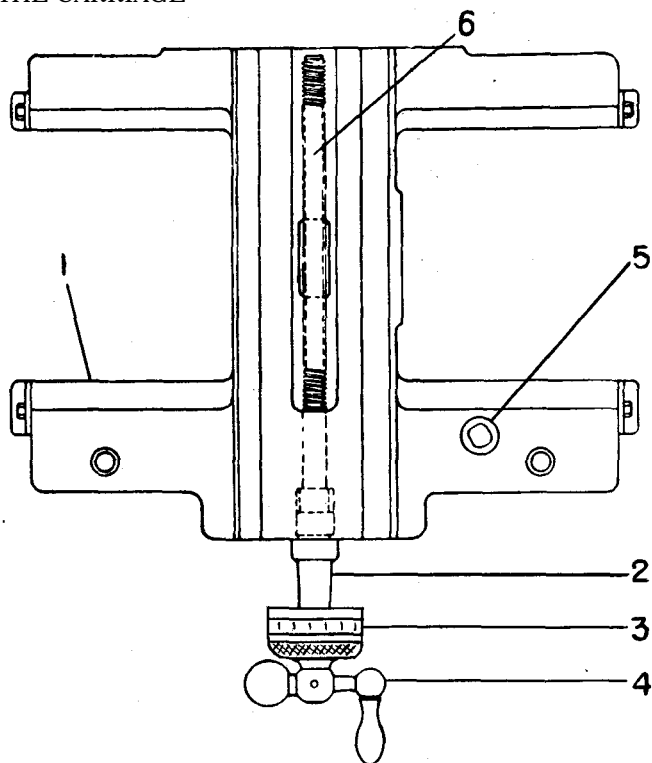

FIG. 9 - CARRIAGE ASSEMBLY
The compound rest unit consists of compound rest bottom slide (1), compound rest swivel slide (2), compound rest top slide (3), cross feed dirt guard (4), and cross feed nut (not illustrated). The bottom slide is fitted to the dovetailed cross slide of the carriage and is equipped with a taper gib to provide means of adjustment for wear. The gib adjusting screws in the ends of the bottom slide can be tightened or loosened to obtain the proper adjustment. The bottom slide should be adjusted so that it will move freely on the dovetail and still be a snug fit. The cross feed nut is attached to the bottom slide and runs on the cross feed screw (6, figure 9). The compound rest gets its movement on the carriage through the cross feed screw and nut.